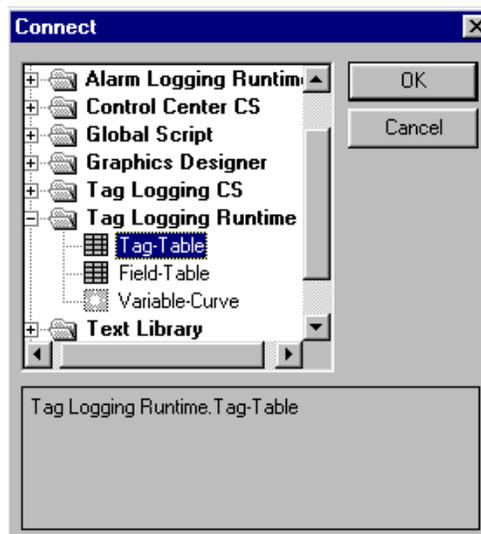

Figure 6.3 WinCC Project "QckStart"; Dynamic Table Connect Property Box
- In the Connect property box, expand "Tag Logging Runtime" using the plus sign and select the "Tag-Table". Click OK. See Figure 6.3.